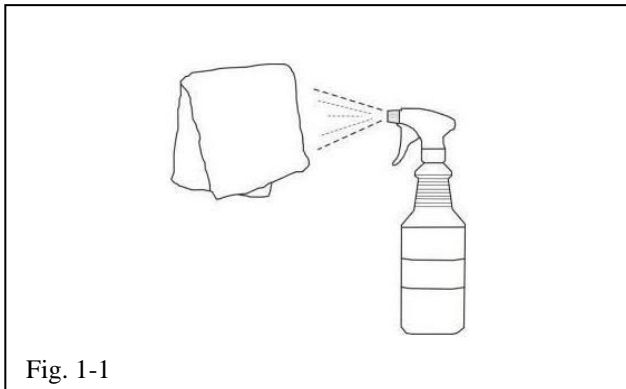

Fig. 1-1
- (b) Apply VDC cleaner directly to the cloth (Fig.1-1).